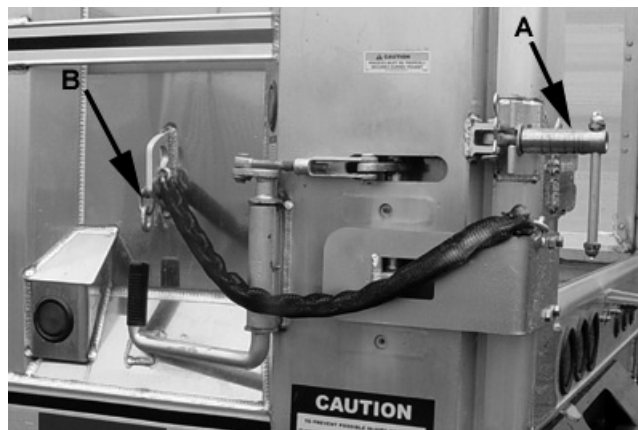

Figure 5-1 Open Winder And Release Chain
2. Release tension on winder (A), pin in the open position and release chain (B) from anchor. See figure 5-1.